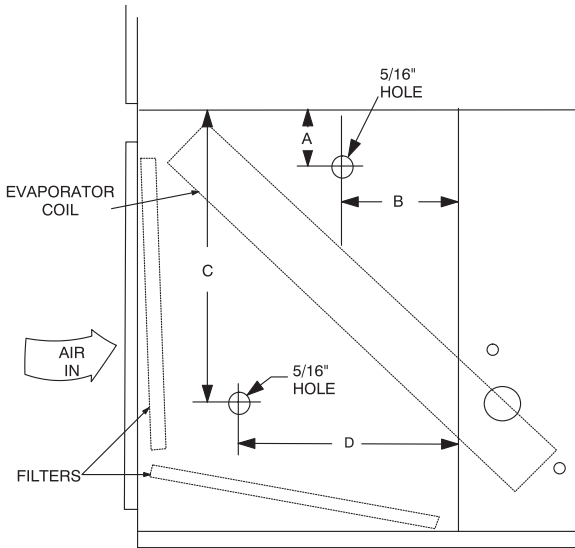

FIGURE 11 - HOLE LOCATIONS FOR PRESSURE DROP READINGS
1. Drill two $5/16$ inch holes in the side panel as shown in Figure 11.